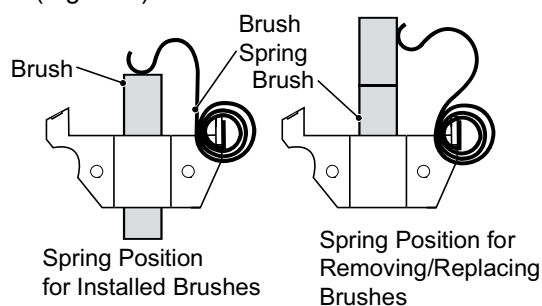
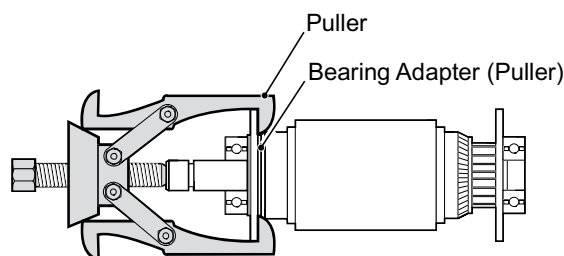

Figure 7 Starter/Generator Brush Removal
Figure 8 Bearing Removal
Remove the brush covers (6) by prying out with a screwdriver. Pull up on the brush springs and move to the side of brushes, slide the brushes out approximately 1/4" (6 mm) (Figure 7). Remove the through bolts (7) and the rear cover (8). Remove the frame and field coils (9). Remove the 5mm screws from the brush holder and 6 mm nuts from A1 and A2 terminals. Remove the brush holder. If the bearing needs to be replaced, use an automotive style two jaw puller to remove the bearing from armature (Figure 8)